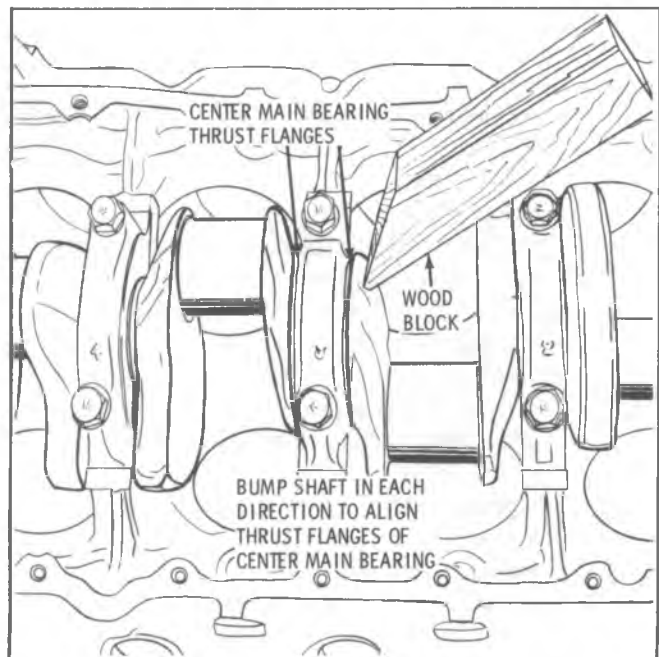

Fig. E-91—Aligning Center Rear Main Bearing Flanges
5. With a block of wood (Fig. E-91) bump shaft in each direction to align thrust flanges of center main bearing.